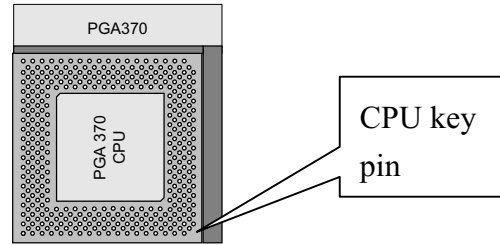

Figure 3.3: PGA 370 socket
- Match key pin on the CPU with key pin of the PGA370 socket. Please see the figure 3.3 for detail.